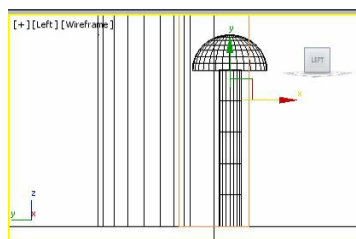

Figure 2-74 Alignment of cap and body
11. Next, align *cap* and *body* of the rivet in the Left viewport using the **Select and Move** tool, as shown in Figure 2-74.